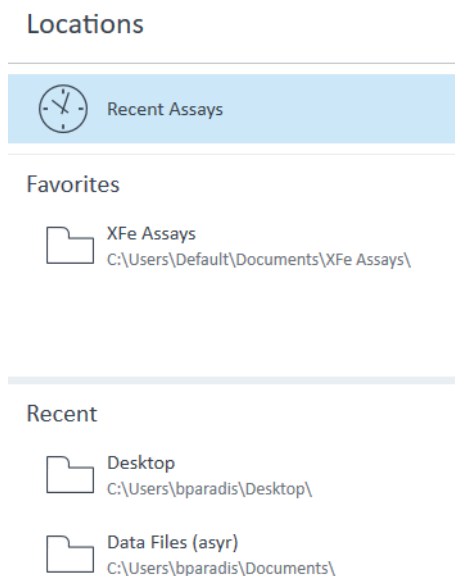

Figure 99 Recent Assays, recent places, and favorite places
- **Favorites** displays user-defined locations (local or network directories) where assay result files are frequently added to, or accessed from. Once configured, each local directory added as a Favorite Place will appear below **Recent Assays** as a folder icon. (See Figure 99.)
- **Recent** displays the file location (for both local and network directories) of recently opened assay result files in the order of when each result file was opened. (See Figure 99.)